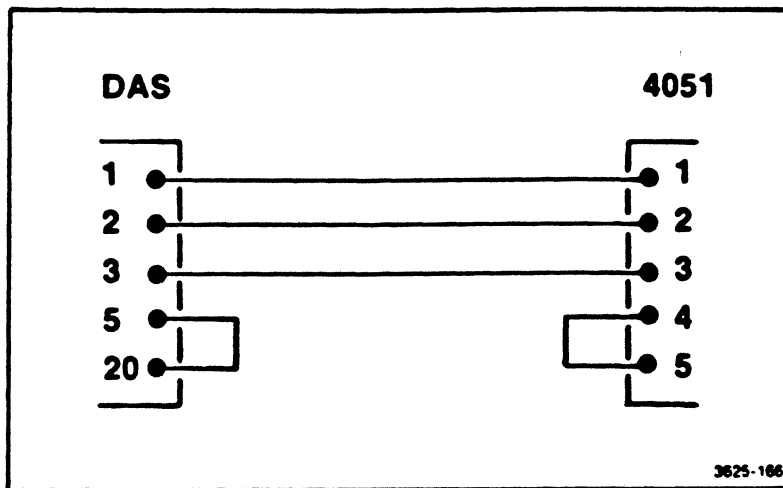

Figure 5-3. Null modem circuit for modem output configuration for a 4051, Option 01.
- null modem (constructed according to the schematics as shown in Figure 5-3 and 5-4)
2. The 4051 Option 01 has two possible output configurations: that of a terminal or that of a modem. The standard output of the 4051 is a modem. If you are using the standard output of the 4051, then construct the null modem shown in Figure 5-3.